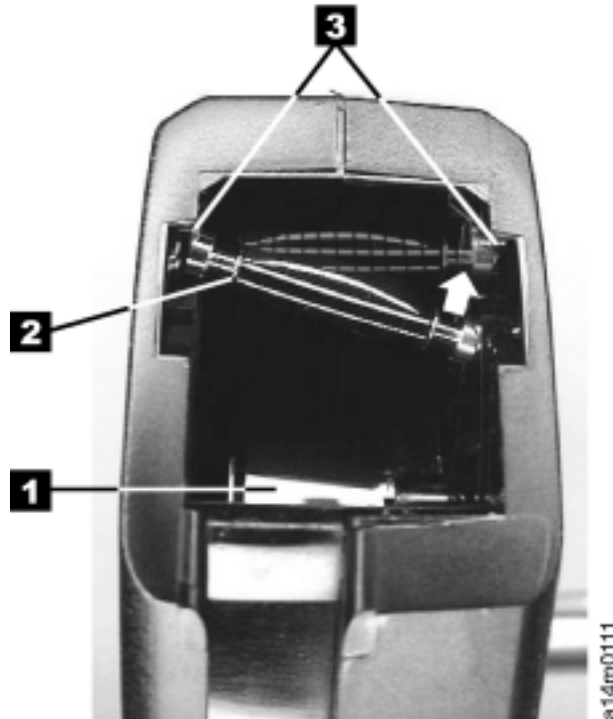

Figure 51. Placing the dislodged leader pin into the correct position
1. Slide open the cartridge door (see **1** in Figure 51 on page 152) and locate the leader pin **2** (you may need to shake the cartridge gently to roll the pin toward the door).